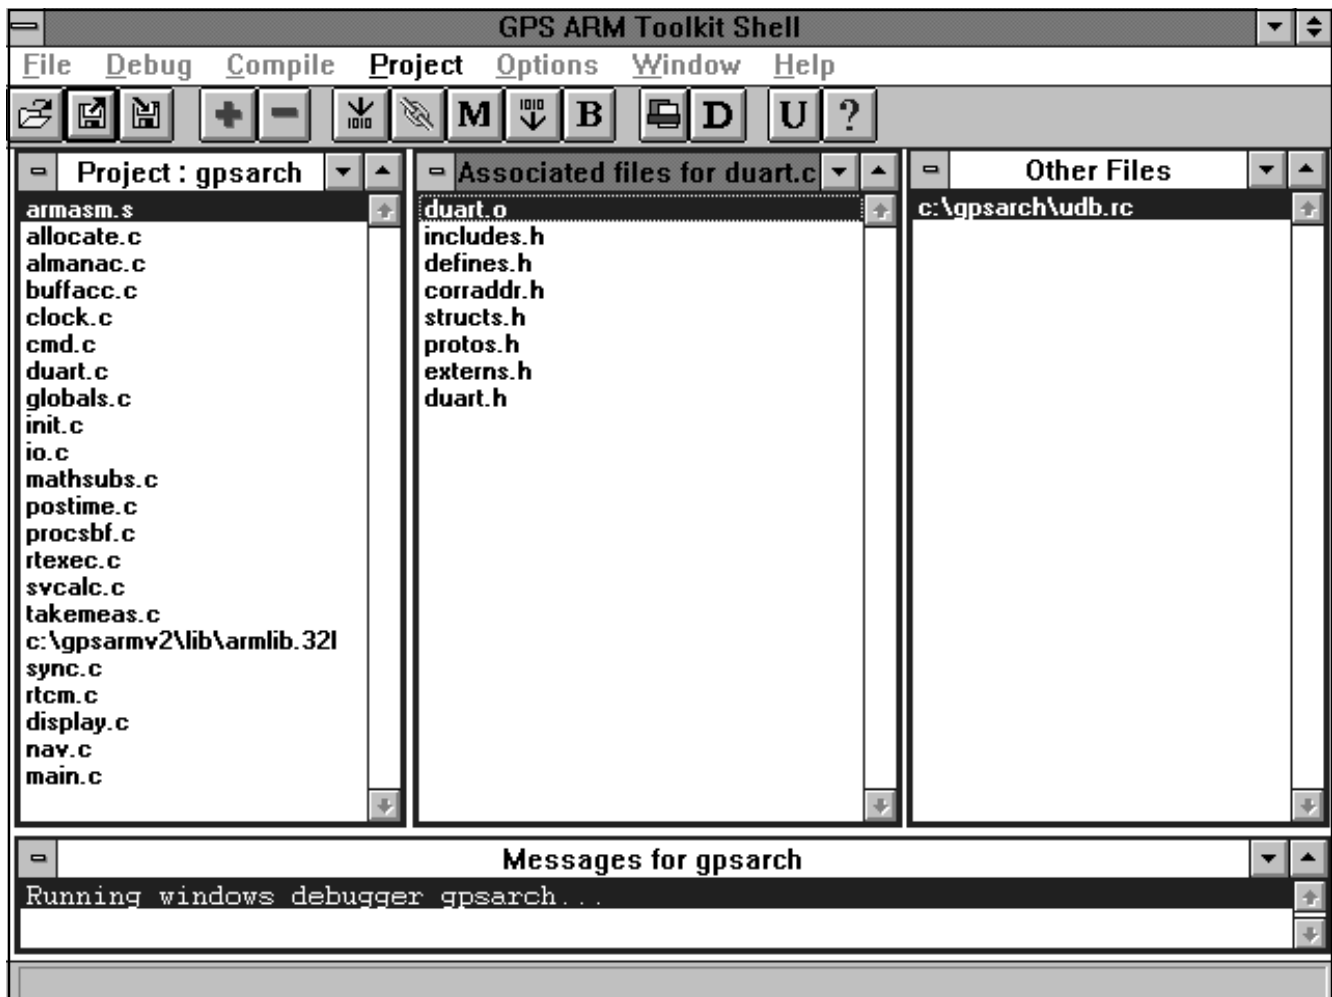

Figure 5 GUI Shell, showing Menu Bar, Tool Bar and the main Project and Message Windows
- Windows-based Graphical User Interface (GUI) Shell - see Figure 5